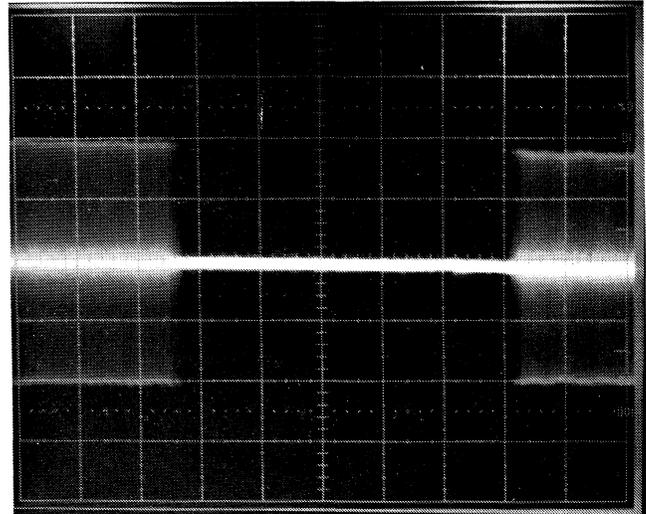

Figure A-3 550  $\mu$ s Gap Display
5. Observe that the gap width is 550 ( $\pm$ 50)  $\mu$ s (Figure A-3). If the gap meets specifications, proceed to step 8.